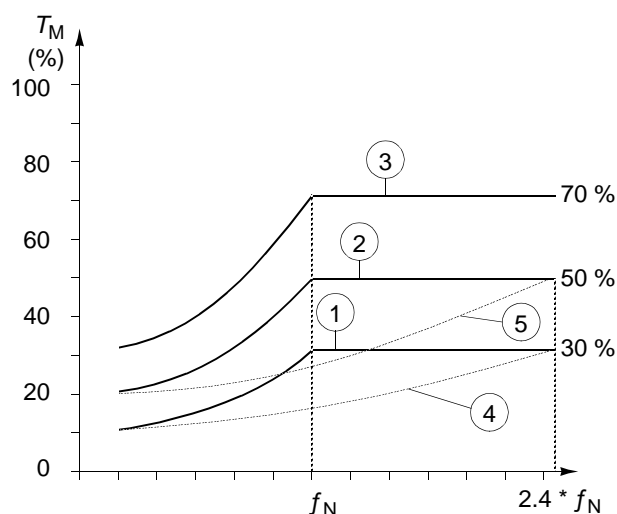

Figure 6-21 Underload curve types. T_M nominal torque of the motor, f_N nominal frequency of the motor.
30.15 UNDERLOAD CURVE	<p>This parameter provides five selectable curves shown in Figure 6-21. If the load drops below the set curve for longer than the time set by Parameter 30.14 UNDERLOAD TIME, the underload protection is activated. Curves 1 ... 3 reach maximum at the motor rated frequency set by Parameter 99.07 MOTOR NOM FREQUENCY.</p>